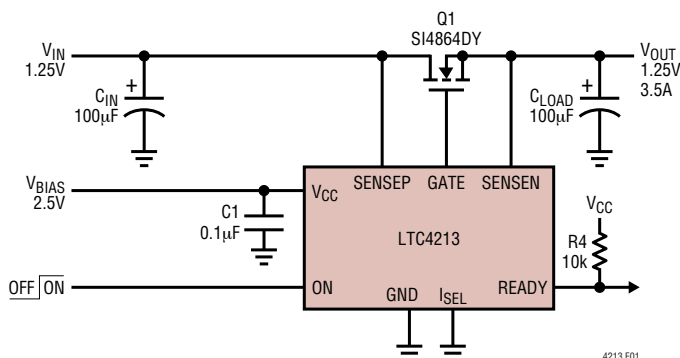
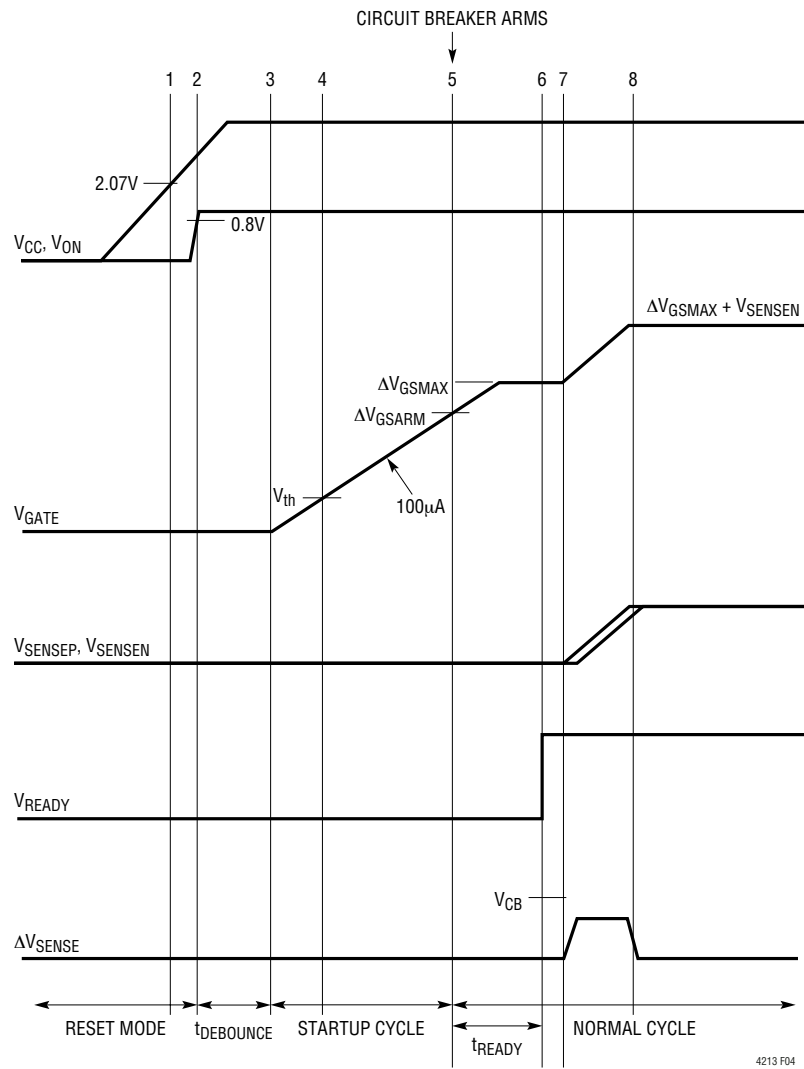
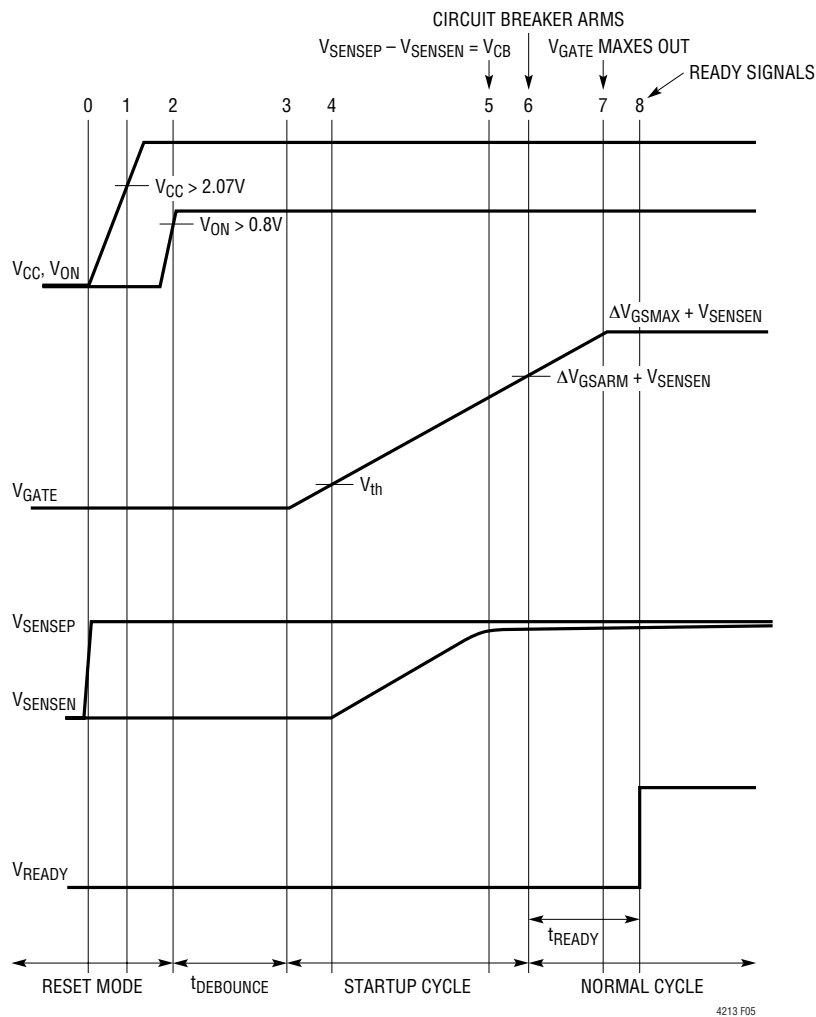

Figure 1. LTC4213 Electronic Circuit Breaker Application
Figure 4. Load Supply Power-Up After Circuit Breaker Armed
Figure 5. Load Supply Power-Up Before V_{CC}
Figure 1 shows an electronic circuit breaker (ECB) application. An external auxiliary supply biases the V_{CC} pin and the internal circuitry. A V_{IN} load supply powers the load via an external MOSFET. The SENSEP and SENSEN pins
Figure 4 shows a normal power-up sequence for the circuit in Figure 1 where the V_{IN} load supply power-up after circuit breaker is armed. V_{CC} is first powered up by an auxiliary bias supply. V_{CC} rises above 2.07V at time point 1. V_{ON} exceeds 0.8V at time point 2. After a 60 μs debounce delay, the GATE pin starts ramping up at time point 3. The external MOSFET starts conducting at time point 4. At time point 5, V_{GATE} exceed $\Delta V_{\text{GS ARM}}$ and the circuit breaker is armed. After 50 μs (t_{READY} delay), READY pulls high by an external resistor at time point 6. READY signals the V_{IN} load supply module to start its ramp. The load supply begins soft-start ramp at time point 7. The load supply ramp rate must be slow to prevent circuit breaker tripping as in equation (8).
Referring back to Figure 1, the V_{IN} load supply can also be powered up before V_{CC} . Figure 5 shows the timing diagram with the V_{IN} load supply active initially. An internal circuit ensures that the GATE pin is held low. At time point 1, V_{CC} clears UVLO and at time point 2, ON clears 0.8V. 60 μ s later at time point 3, the GATE is ramped up with 100 μ A. At time point 4, GATE reaches the external MOSFET threshold V_{TH} and V_{OUT} starts to ramp up. At time point 5, $V_{SENSEIN}$ is near its peak. At time point 6, the circuit breaker is armed and the circuit breaker can trip if $\Delta V_{SENSE} > V_{CB}$.
There is no current limit monitoring during output charging for the figure 5 power-up sequence where the load supply is powered up before V_{CC} . This is because the GATE voltage is below ΔV_{GSARM} and the MOSFET may not reach the specified $R_{DS(ON)}$. The V_{IN} load supply should have sufficient capability to handle the inrush as the output charges up. For proper startup, the final load at time